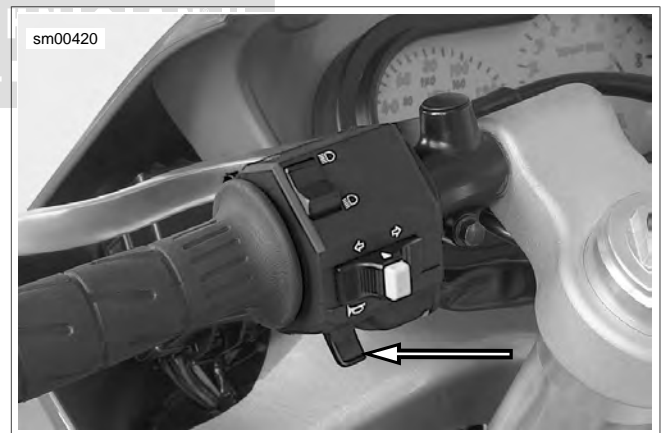

Figure 6-43. Horn Switch
3. See Figure 6-43. Depress horn switch and observe voltmeter reading.